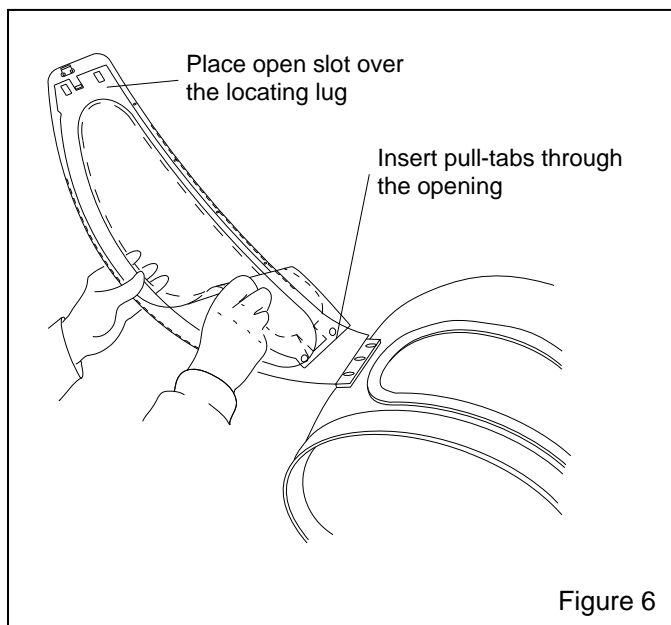

Figure 6
9.1 Lens Options and Replacement Procedures Refer to Figure 6
9.1.1.3 Arrange the stack of lenses on the inside of the opened window frame so the straight edge is toward the top of the frame, and the **pull-tabs are at the hinged end**, as shown in Figure 6.